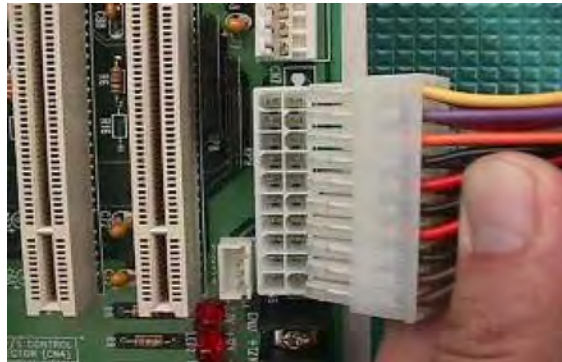

Figure 5-2
Step 1: Connect 20-pin power cable of the ATX POWER with ATX POWER CONNECTOR (20-pin) on the backplane. (Figure 5-2)